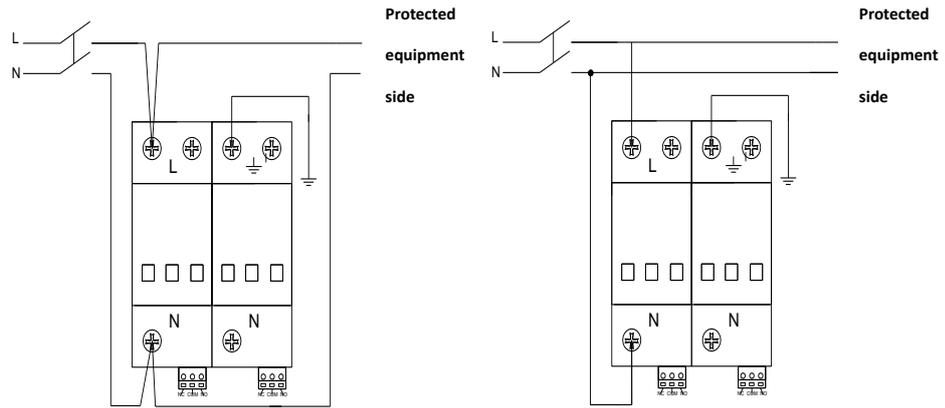

Figure6-1 Wiring diagram - V-shaped wiring Figure
1. It is best to use the V-shaped wiring method as shown in Figure 6-1 for the single-phase power supply surge protector. When it is difficult to achieve V-shaped wiring due to actual conditions, the conventional direct wiring method as shown in Figure 6-2 can also be used. Parallel wiring, in order to achieve better protection effect, when using direct parallel wiring, the wiring should be as short as possible, and the total length should be controlled within 0.5m.